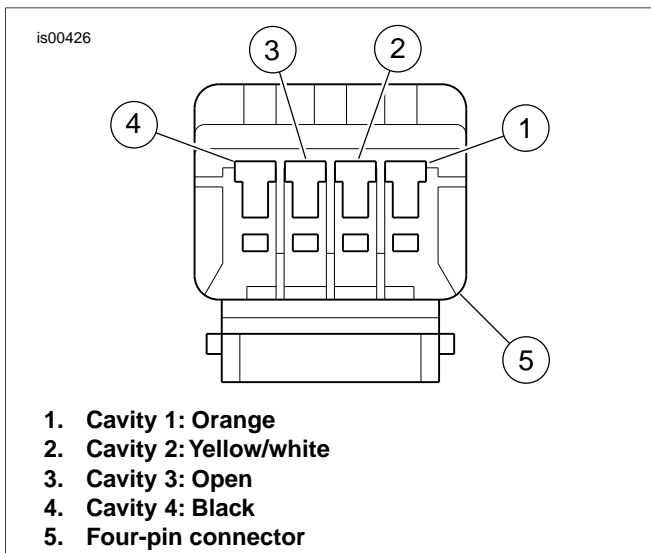
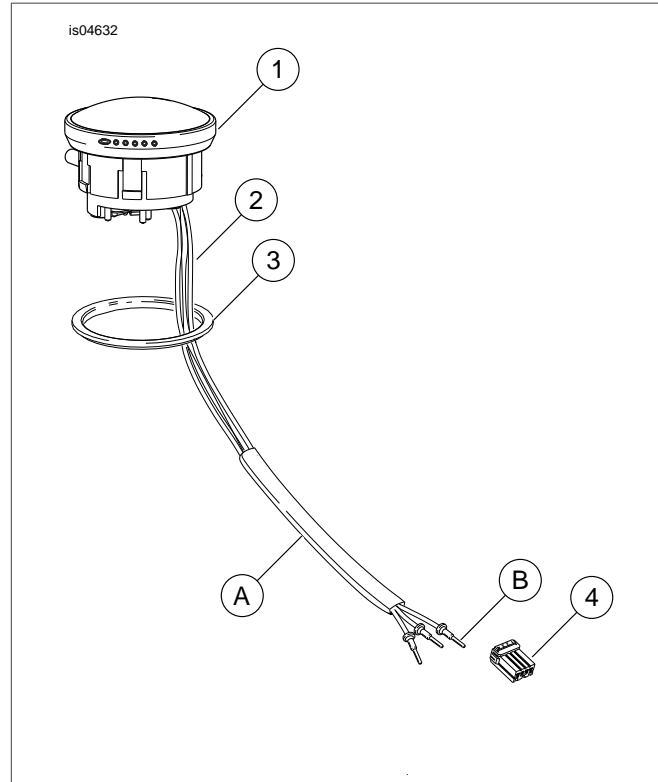

Figure 2. Four-Pin Connector (viewed from wire end)
Figure 3. Service Parts: LED Fuel Gauge Kit
See Figure 3 and Table 1.
2. See Figure 3. Press the pin on the socket terminal side of the connector, and pull apart the pin and socket halves.
4. **For Carbureted Models:** See Figure 3. Remove the fuel gauge by firmly grasping and carefully pulling up (do NOT twist) on the gauge just far enough to free it from the fuel tank. Disconnect the two sending unit connectors. Feed the conduit and two wires up through the tube while removing the gauge. Remove and discard the fuel gauge.
**For Fuel-Injected Models:** See Figure 3. Remove the fuel gauge by firmly grasping and carefully pulling up (do NOT twist) on the gauge to free it from the fuel tank. Feed the conduit and three wires up through the tube while removing the gauge. Remove and discard the fuel gauge.
2. See Figure 3. Assemble the new gasket (3) to the LED fuel gauge (1) from the kit. Install the gasket so the flat side contacts the edge of the gauge.
3. While carefully lowering the fuel gauge, feed the wire harness (2) down into the drain tube until the three short (Orange, Black, Yellow/White) wires exit the hole at the bottom of the fuel tank. Gently pull the wires to remove slack while installing the gauge to the fuel tank. Do not twist the gauge during installation. Hold the gauge firmly and press down until it snaps into place.
4. See Figure 2. Install three wires (1, 2, and 4) into the correct cavities of the four-pin connector from the kit. Refer to the AMP MULTILOCK ELECTRICAL CONNECTORS, INSTALLING SOCKET/PIN TERMINALS section in the Service Manual.